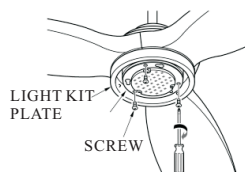

FIG.16
5. Tighten the light kit by using the 3 screws removed in step 4 (see Fig.16)